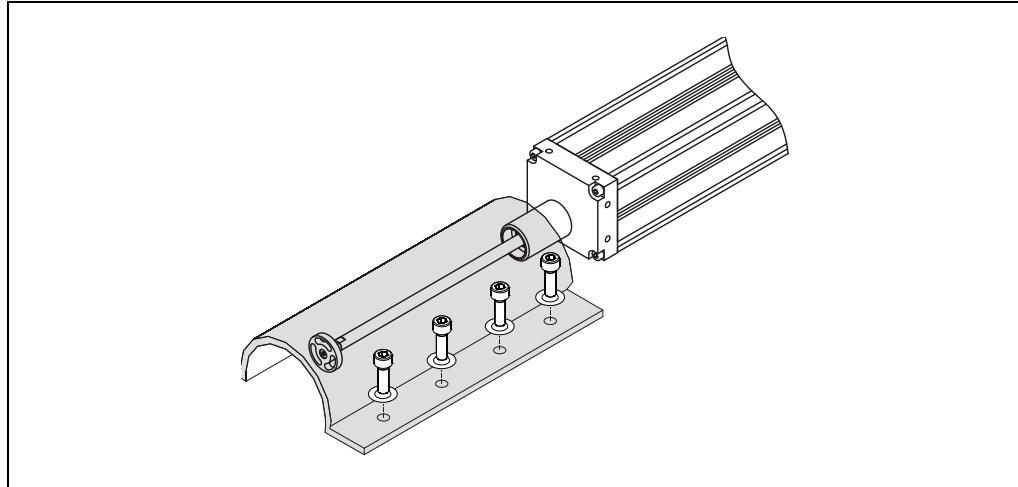

Figure 4: Mounting example protective cover
- If splashing water, shavings, hot metal particles and similar cannot be excluded, an additional measuring axle protection must be used, see Figure 4.